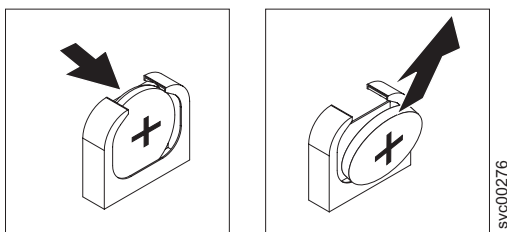

Figure 136. SAN Volume Controller 2145-8G4 CMOS battery holder
5. Remove the CMOS battery, as shown in Figure 136: